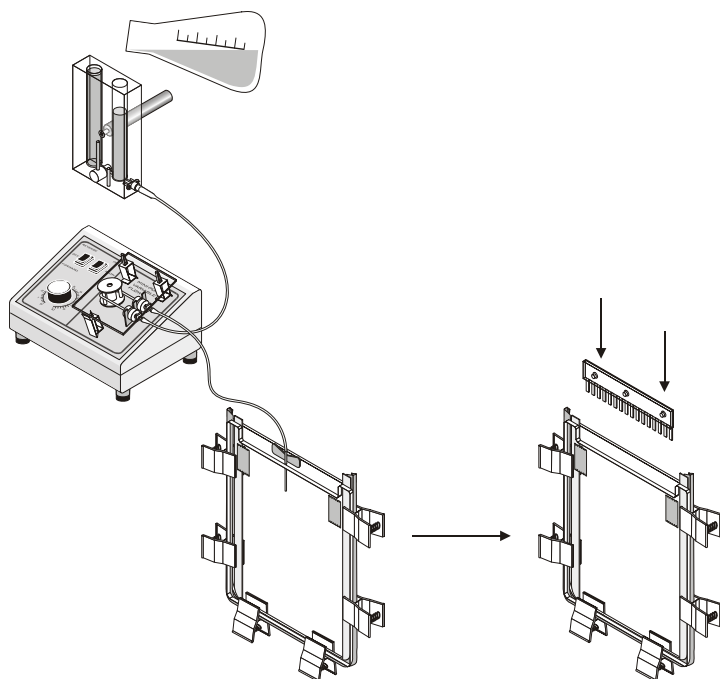

Figure 3
1. Prepare gel sandwich and gel solutions as described. See Figure 3 for general set-up of the gel casting procedure.